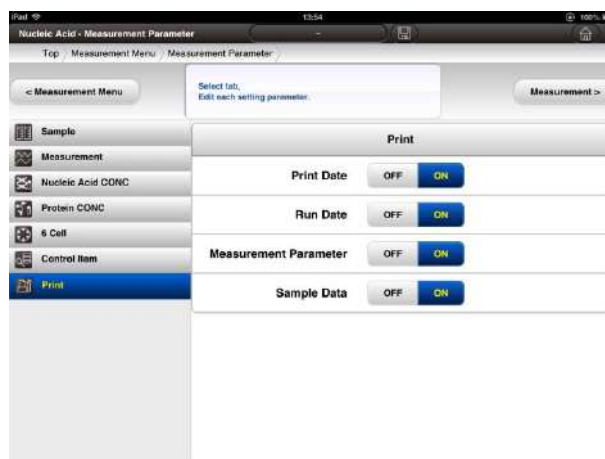

Fig. 4-56 Print Window
- (1) Press  [print tab] to set printing conditions.
- (2) The printing conditions window (Fig. 4-56) will then be shown.